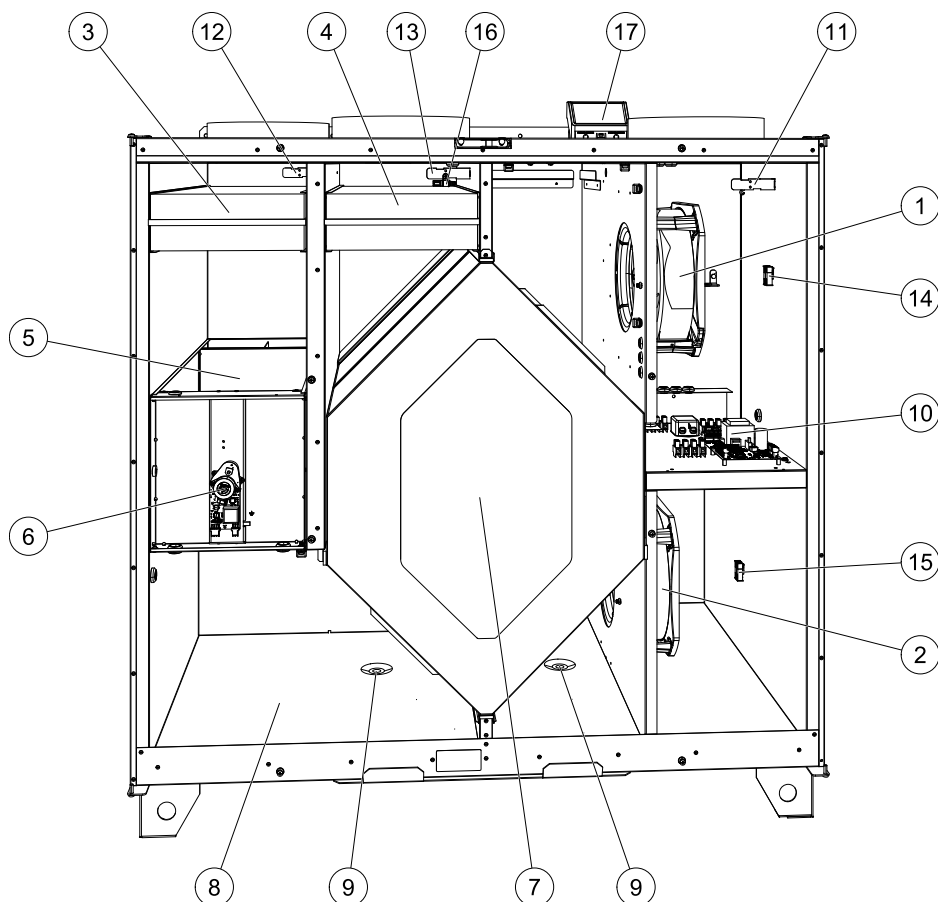

Fig. 10 Components
The built in bypass damper (pos. 5 figure 10) is involved in defrosting, cool recovery, and supply air temperature control of the unit. The damper motor is controlled by an analogue 0–10 V signal.
Depending on the relative humidity in the extract air, condensation may occur on the cold surfaces of the heat exchanger. The condensate water is gathered in the condensation tray (pos. 9 figure 10) in the bottom of the unit and is led out through the drainage (pos. 10 figure 10) which are situated on each side of the heat exchanger. The drainage outlets are size ½” with outer threaded tube connections (chapter 5.3.1).
- Supply air sensor (pos. 11 figure 10)
- Outdoor air sensor (pos. 12 figure 10)
- Extract air sensor (pos. 13 figure 10).